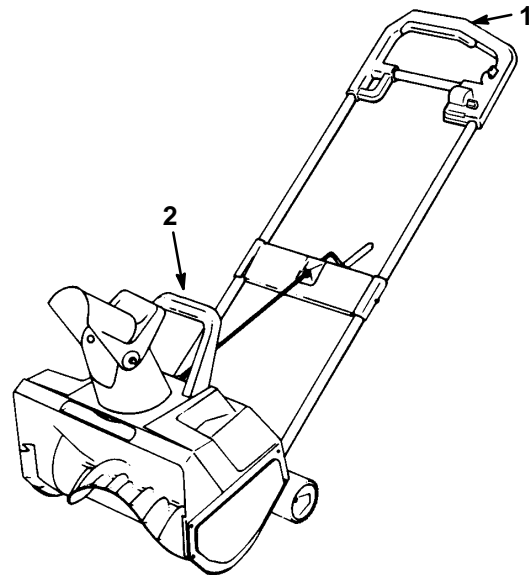

Figure 10
6. Shave down large banks of snow by placing the snowthrower on the bank. Lift the snowthrower by the primary and secondary handles only (Fig. 10). Let the unit's weight shave down the bank in a back and forth motion.
7. When clearing steps or deep drifts, hold the unit by the primary and secondary handles (Fig. 10) and use a swinging or sweeping motion.